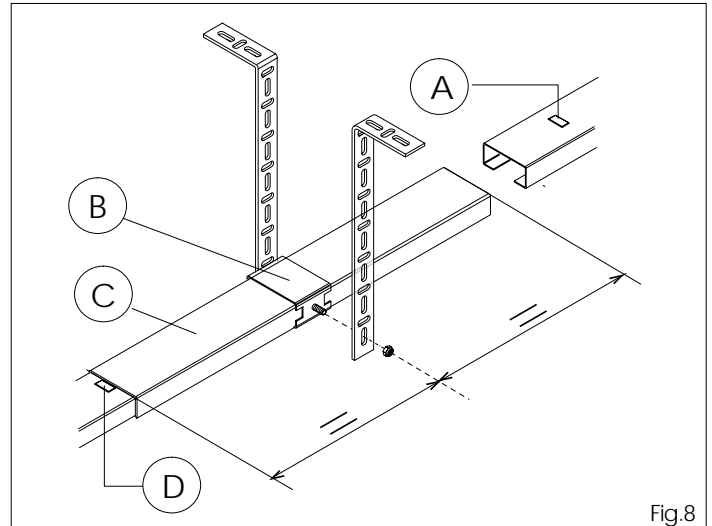
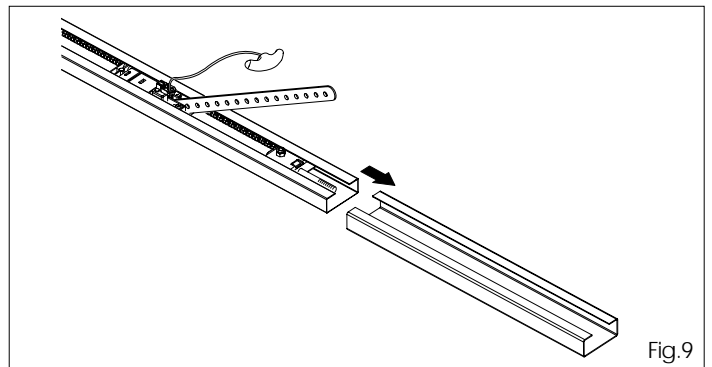
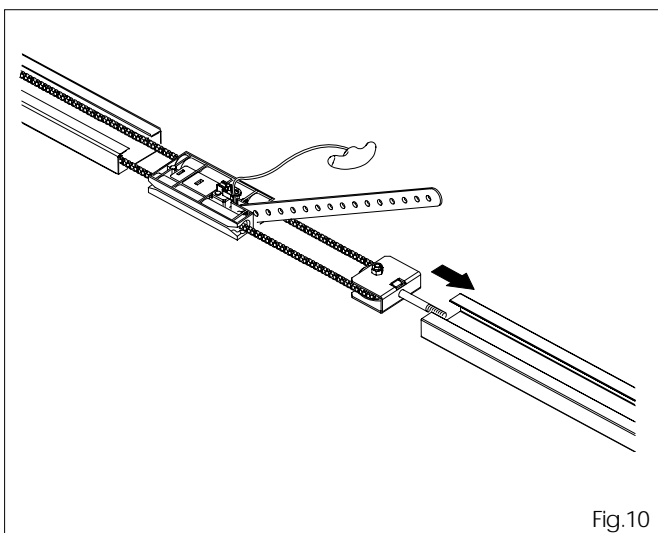

Fig.8
Fig.9
Fig.10
5.2 Fit the guide (Fig.8 ref.B) in the slide (Fig.8 ref.C), centrally with respect to the slide. Pre-form the brackets and secure them to the guide with the nut (Fig.8).
5.3 Insert the longitudinal member with chain in the central slide (fig. 9) until it meets the metal projection (fig.8 ref.D).
5.4 Fit a new longitudinal member (fig.10) in the already installed unit, making sure that the metal projection shown in Fig. 8 ref.A comes into contact with the central slide.